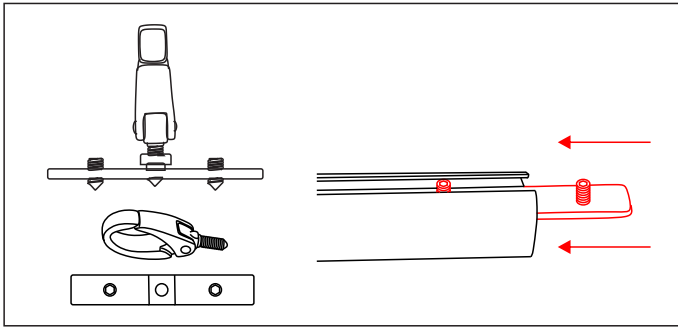

Fig. 16
4. The cable connectors are comprised of two parts - the base that slides into the upper channel of the profile and the clip, which screws onto the base. Insert three bases for the first and last profile and two bases for the remaining profiles (Fig.16).